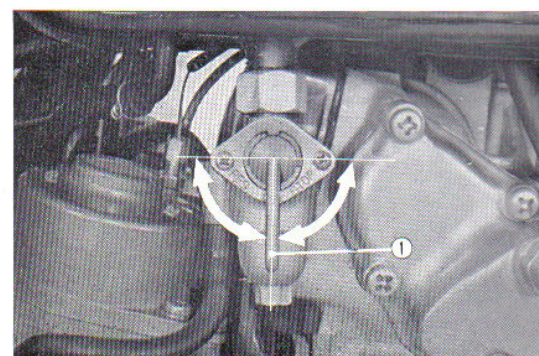

Fig. 6.14
- b. Remove the feed line from the carburetor and check the flow when the fuel cock lever is "ON" or "RES". (Fig. 6.14)